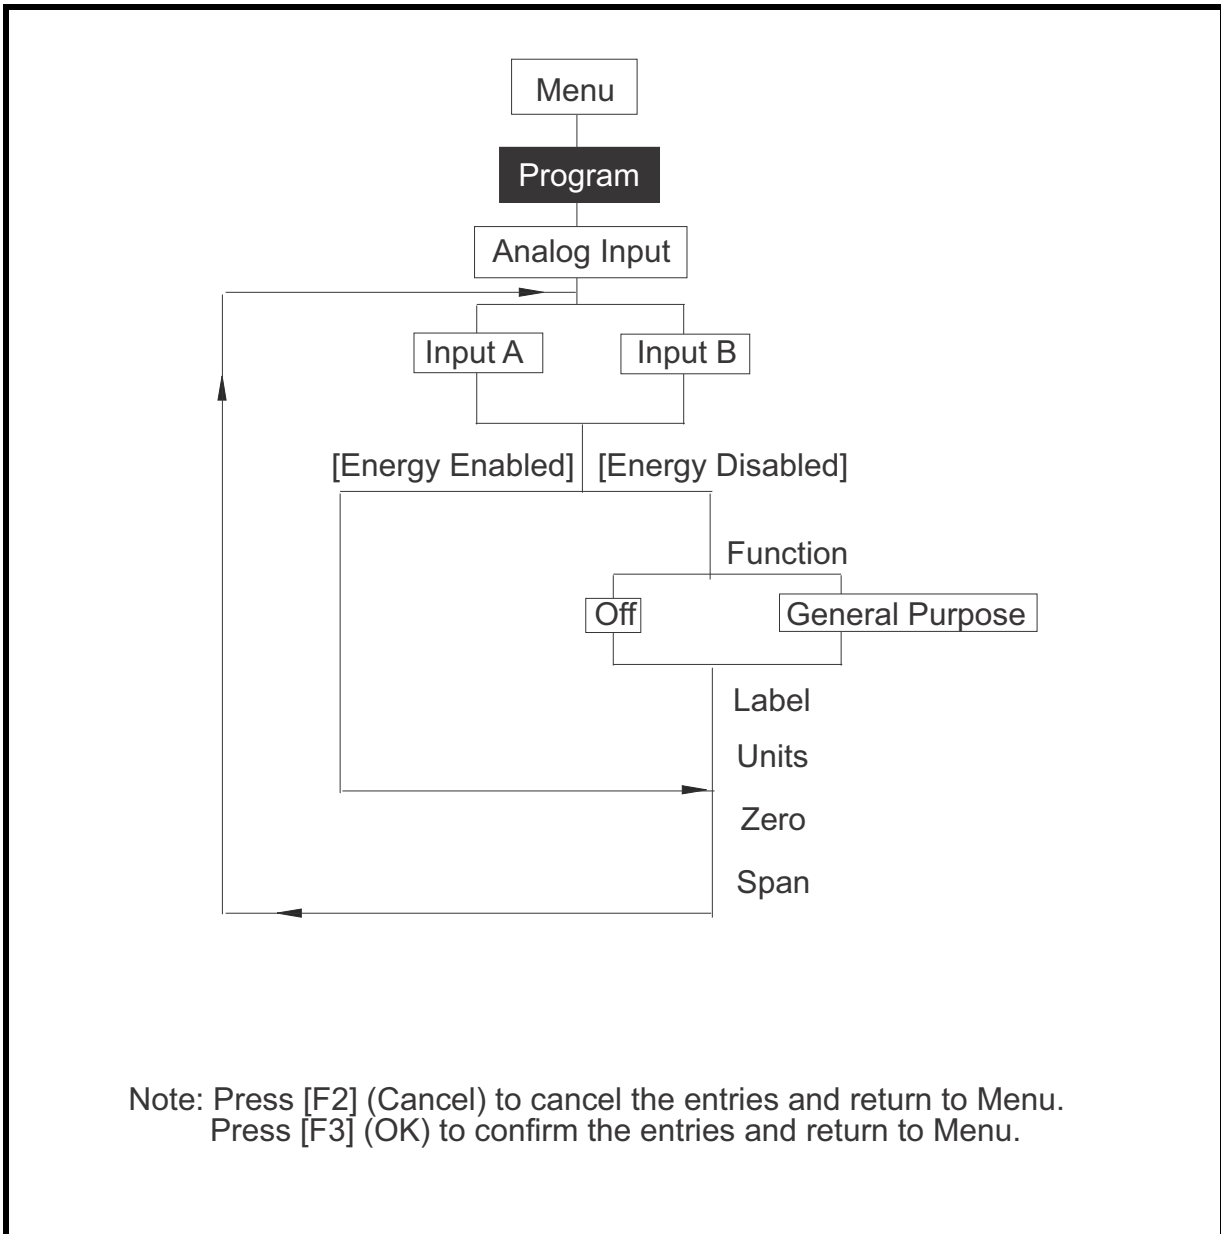

Figure 148: Analog Input Option
- Analog Input Option - Figure 148 on page 232